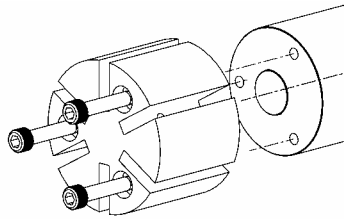

Figure 8 Single Rotor
- a. **Ductile iron models:** Remove the sleeve bearing (24) from the bearing housing (57) using an appropriately sized arbor press.
17. **Only disassemble rotor & shaft if necessary for part replacement.** To disassemble the rotor (13B) and shaft (13A) by removing the three cap-screws (13C). On tandem pump models, first remove the outboard set of socket cap screws (13C), the outboard rotor (13D) and the rotating disc (13E). See figures 8 & 9